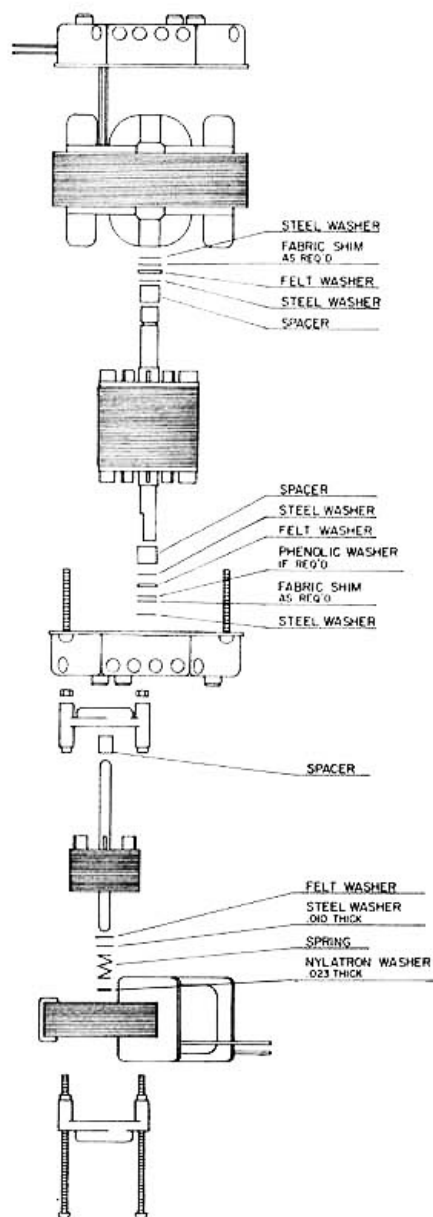

Fig. 8
1. After removing two-speed motor assembly as previously outlined, detach small motor and its mounting bracket from the "U" bracket by unscrewing the four mounting bracket screws. (See Fig. 8).
2. Remove the two nuts and washers attaching small motor to its mounting bracket. (See Fig. 8).